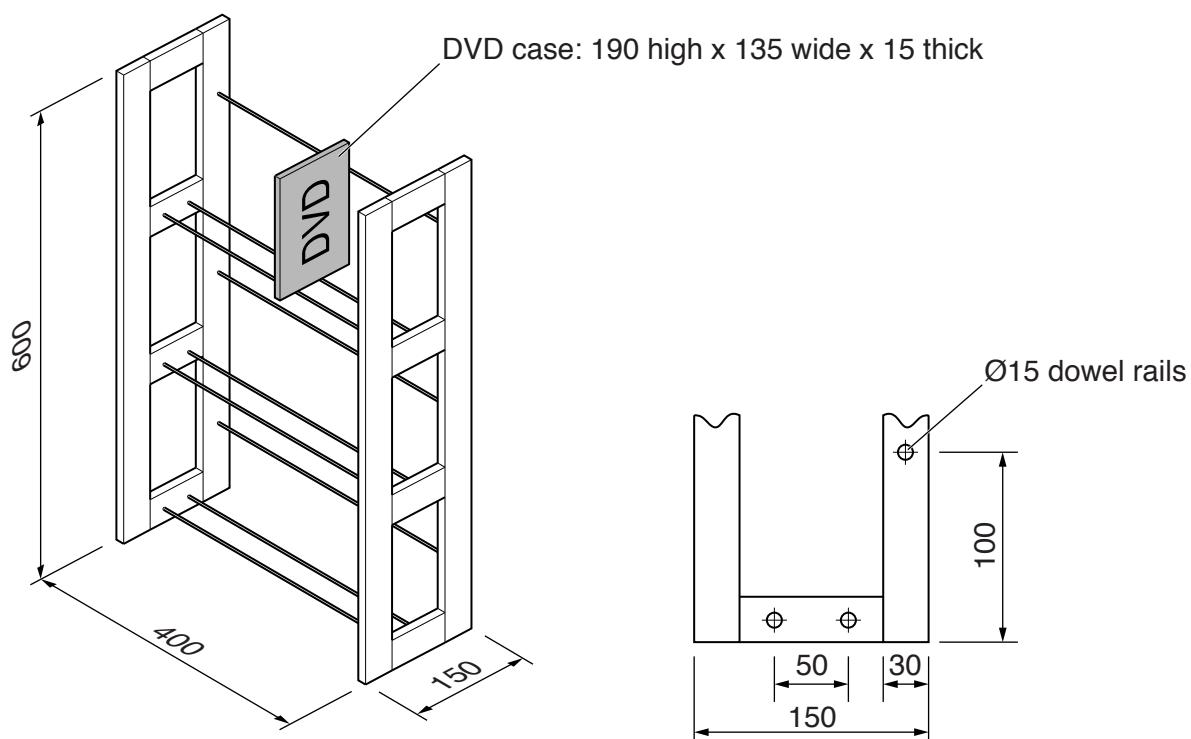

Fig. 5
- 4** Fig. 5 shows views of a DVD storage unit.